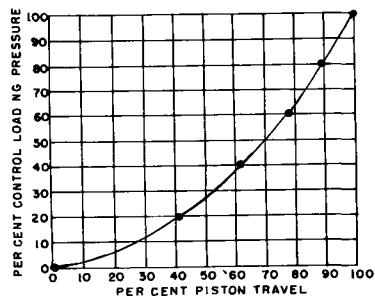

FIGURE 10 - Cam Characteristic
- 3 From steps 1 and 2 above, determine the exact control loading pressure vs piston position characteristic (see Figure 10)